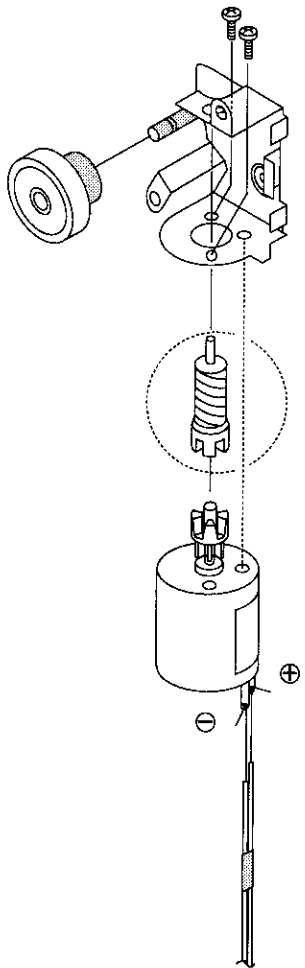

Figure 4-51.
- ① Take out the old loading motor. Place a replacement loading motor as shown above (Figure 4-51.).